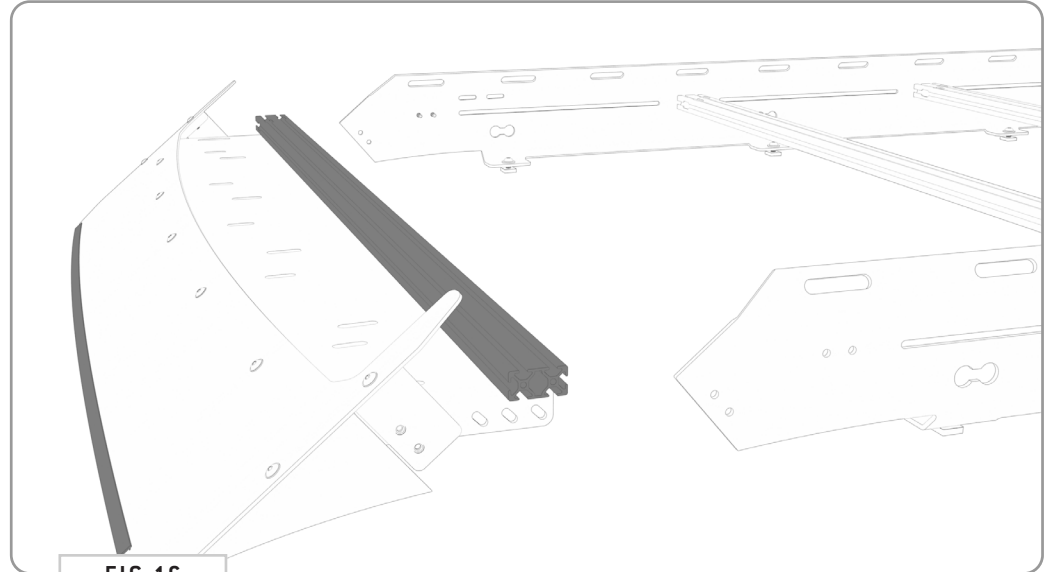
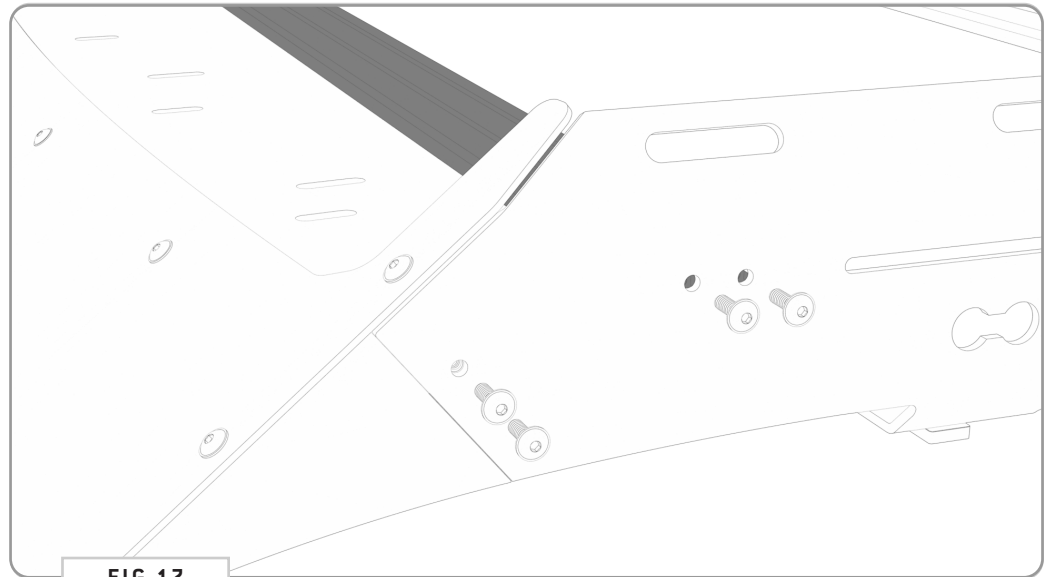

FIG 16
FIG 17
**5.1 Fairing Install:** Now you're ready to attach the fairing to the roof rack. Slide it in from the front and into the location shown in **FIG 16**. Tighten down using **(8) 1/4-20" Flange Head Screws** (**FIG 17**).